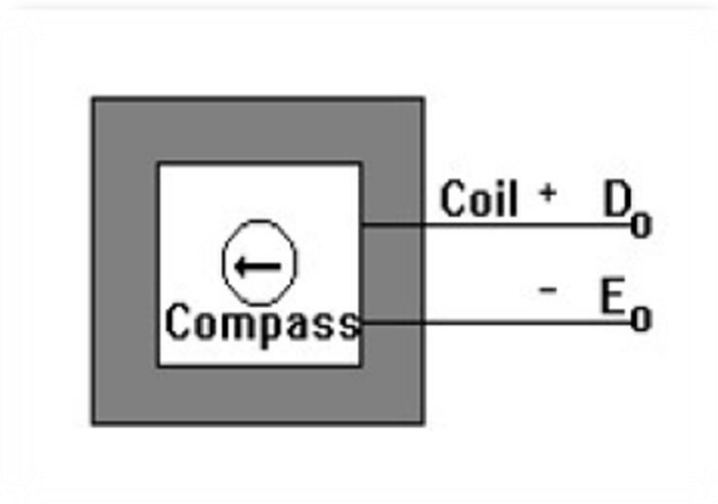

Figure 1.1
- 1) The connection shown in the **figure 1.1** below was connected and  $V_{in}$  was set at 6v, after that we noted the pole of the compass needle is deflected towards the centre of the coil.